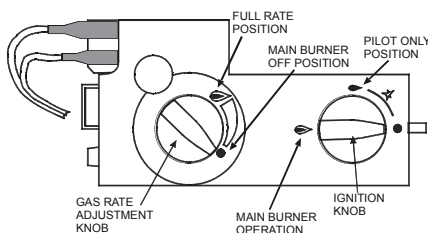

Figure 10 – Gas Valve
5. **Turn the IGNITION KNOB anticlockwise to the Main Burner Operation position as shown in Figure 10.**